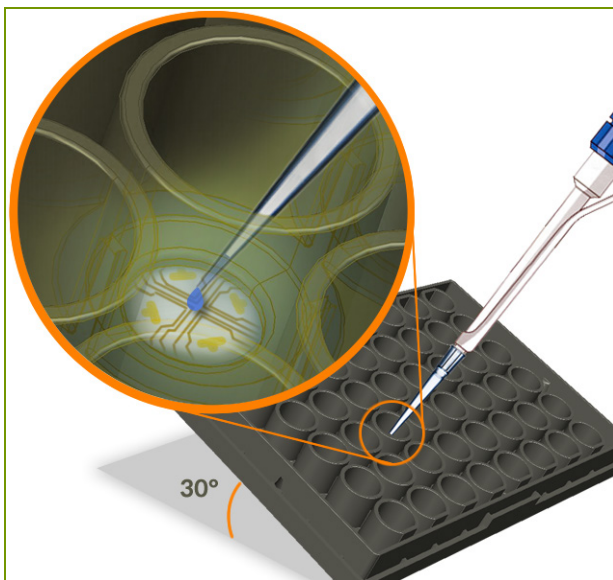

Figure 1: Example Droplet Placement
1. Thoroughly mix the cell suspension by gently inverting the tube 2 - 3 times. Tilt the 48-well MEA plate at an angle so that the bottom of all wells are visible. Immediately dispense a 10 μ l/well droplet of the cell suspension directly over the recording electrode area of the well of the 48-well MEA pre-coated with PEI solution (Figure 1).